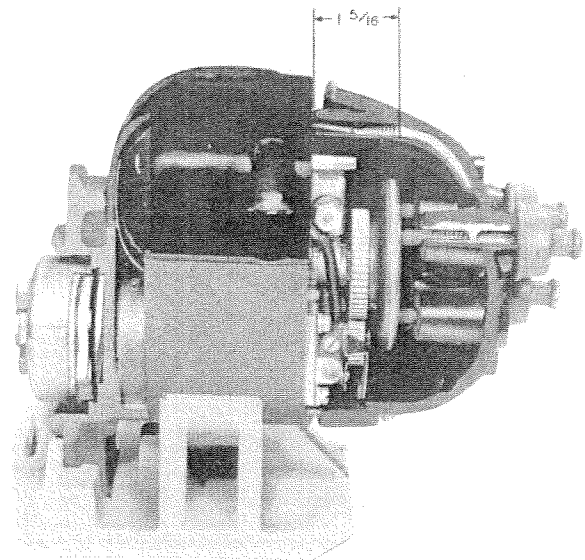

Figure 20. Sectional View of Magneto
1. The distance from the edge of the top cover to the end of the spring being short, (should be $1-5/16$ "), or burned off, and not making contact with the brass insert in the distributor cap. Figure 20.